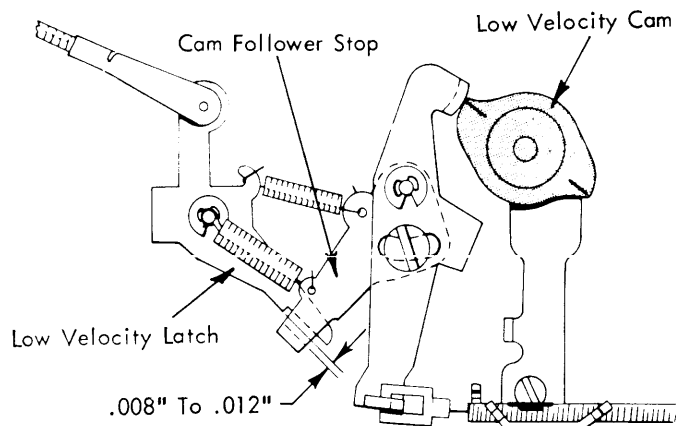

FIGURE 90. Low Velocity Cam Adjustment
10. Low Velocity Cam Adjustment - The cam should be adjusted radially on the filter shaft so that the following condition will exist: When a low velocity character is slowly hand-cycled, the low velocity latch should clear the adjusting stop on the cam follower by .008" to .012" (Fig. 90) just as the cam follower begins to move down off the high dwell of the low velocity cam. Advance or retard the cam to satisfy this condition.
- a. Slowly hand-cycle a low velocity character until one of the scribe marks on the cam is in line with the center of the shoe on the cam follower (Fig. 90).